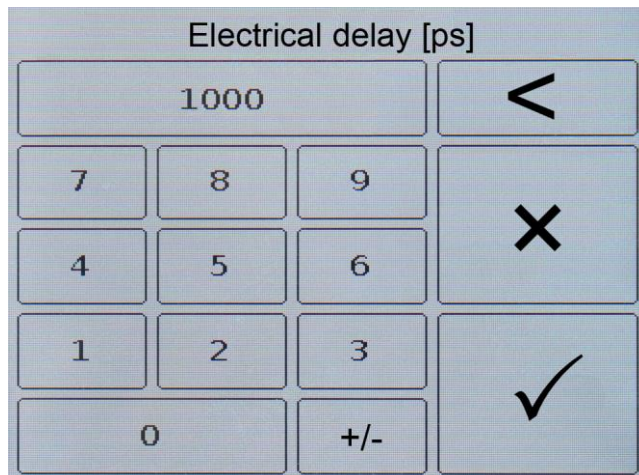

Figure 9.25 – Entering numeric value compensation electric cable length
9.9.4. Type numerical time a compensation value (T) in picoseconds as calculated from the formula in box Electrical delay (Figure 9.25).
9.9.5. Enter a numeric time compensation value and press  $\checkmark$  or **Enter**. To delete erroneous or previously entered values, press  $\times$  or **Del**. To refuse to enter a value, click  $<$  or **Cancel**. *In our example, in figure 9.25, a numerical value for cable length compensation is entered.*